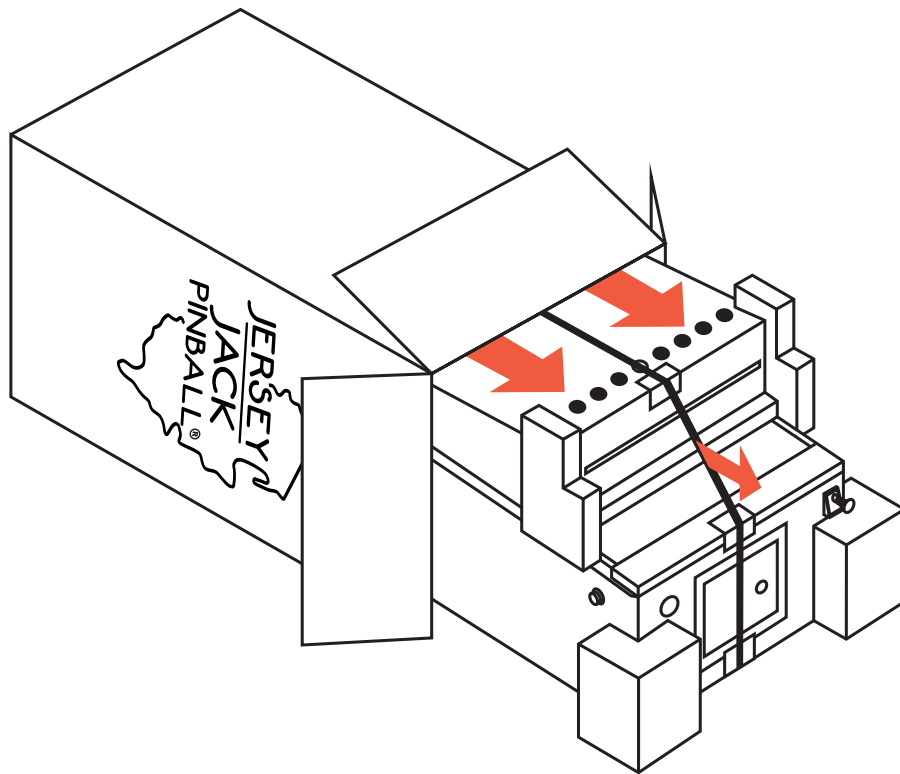

Figure 3a. Sliding the game out of the carton.
2) REMOVE ALL STAPLES FROM THE OPEN CARTON FLAPS (to protect the sides of your cabinet). With the help of at least one other person, carefully tip the carton over and lay it on its “TRUCK THIS SIDE ONLY” side (see figure 3a). Using the nylon strap as a handle, slide the game and packing materials out of the carton.